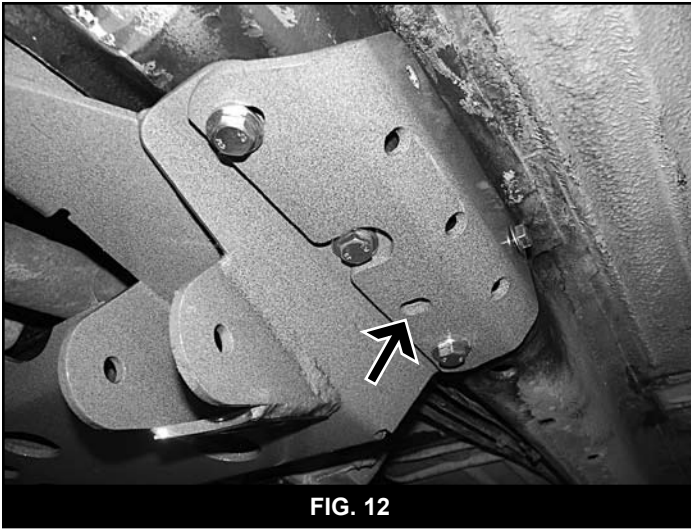

FIG. 12
26. Locate the second hole from the rear of the crossmember (Fig 12 - on both sides). Using the crossmember hole as a guide mark and drill the hole to 5/16".